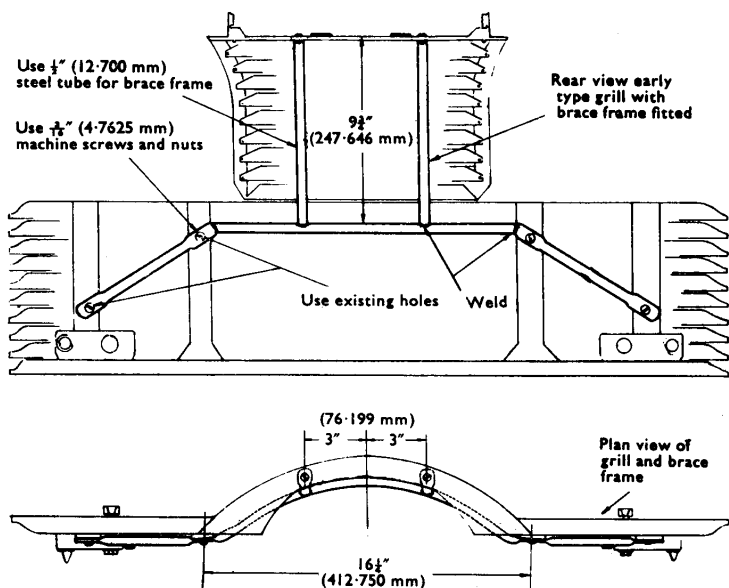

Fig. 2 Fitting of brace frame to early type grill
3. Remove the radiator grille and remove the deflector plate as shown at C. Cut away the portions of the grille louvres as shown, so that there is clearance between the Oil Cooler and the grille. If the grille is of the early type with the chromium-plated louvres, no modification to the louvres is required, but it will be necessary to remove the brace frame, and to fabricate and fit a modified brace frame, as shown in Fig.2.